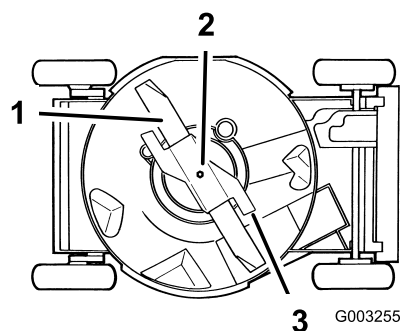

Figure 31
4. Tip the mower onto its **right** side (Figure 31).
Grasp the end of the blade using a rag or a thickly padded glove. Remove the blade bolt, the lock washer, the accelerator, and the blade (Figure 31).